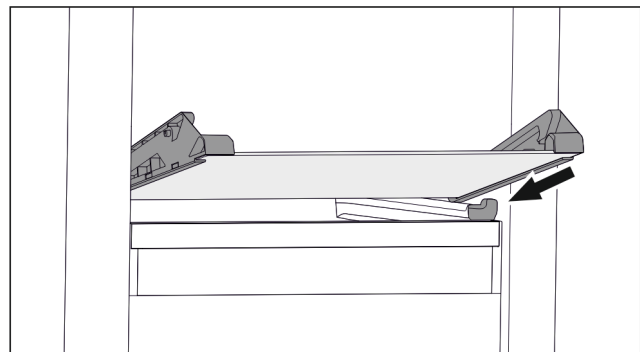

Fig. 104 Tilting drawer glass shelf
- ▶ Position glass shelf at an angle behind the stoppers. (see Fig. 104)